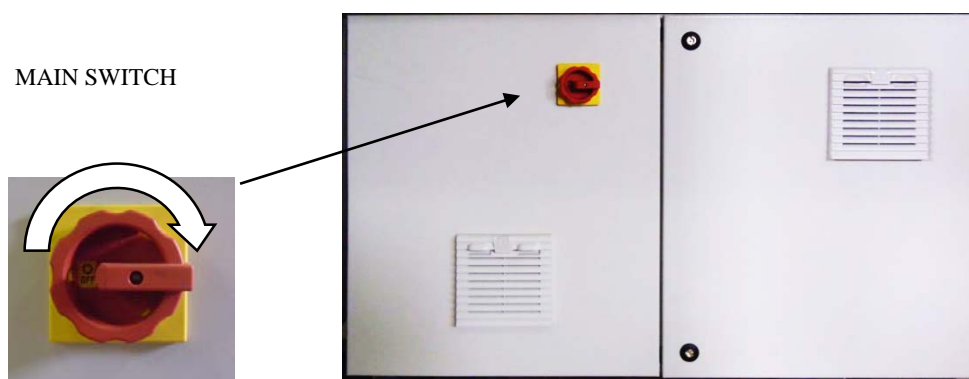

Fig. 51
- Rotate the main switch located on the electrical cabinet of the machine in a clockwise direction (Fig. 51).